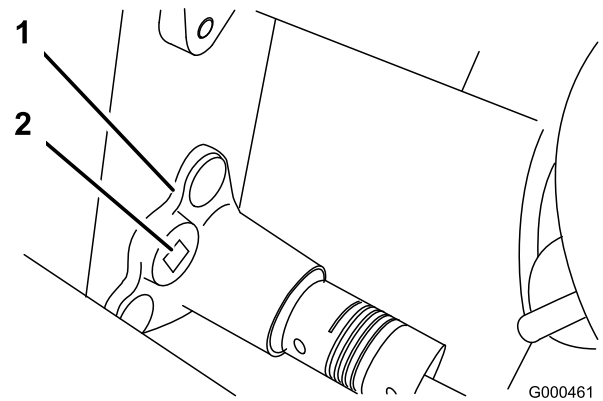

Figure 40
- B. Using a $3/8$ inch drive torque wrench, rotate the bearing housing with 35-40 in.-lb. of torque to set belt tension (Figure 40).